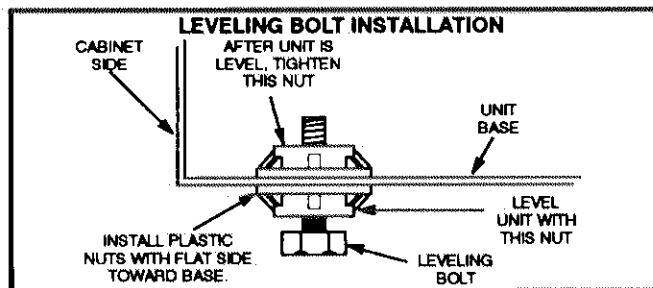

FIGURE 5
- 1— Holes are provided in the corners of unit base for leveling unit. Install leveling bolts (if desired) or shim under unit. See figure 5.